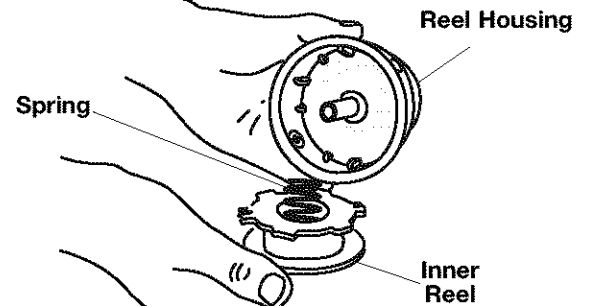

Fig. 20
2. Remove the inner reel and spring (Fig. 20).